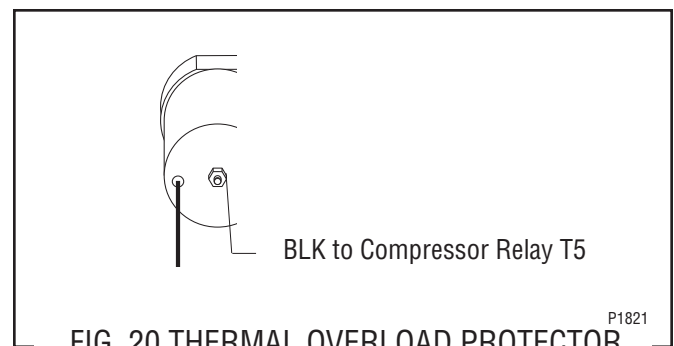

FIG. 20 THERMAL OVERLOAD PROTECTOR TERMINALS
1. Remove terminal cover retainer (7) and terminal cover (6).
3. Remove overload protector retainer (5) and thermal overload protector (4) as an assembly
4. Remove retainer (5) from overload protector (4) and discard overload protector.
5. Install retainer (5) on new overload protector (2).
6. Install retainer (5) and overload protector (4) on the compressor terminal bracket.
7. Refer to Fig. 20 and reconnect the thermal overload protector wires.
8. Reinstall terminal cover (6) and cover retainer (7).